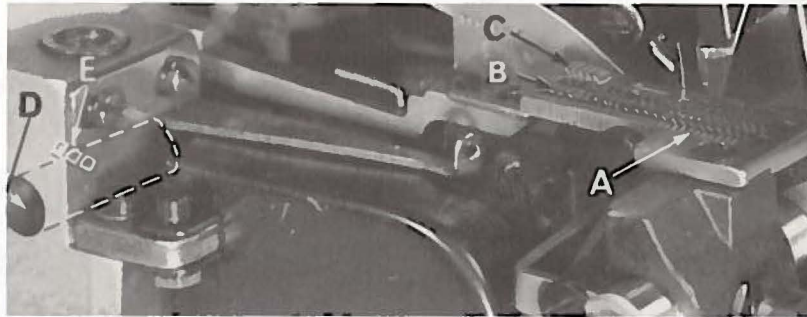

Fig. 13
Now assemble differential (front) feed dog (A, Fig. 13), if not already in place, main (back) feed dog (B) and chaining feed dog (C). Set the differential and main feed dogs (A and B, Fig. 13) so the top surfaces of teeth lay in the same plane. This can be checked by sighting across teeth with a straight edge. Now assemble throat plate. Feed dogs should now be leveled with throat plate surface by rotating feed tilting adjusting pin (D). This pin raises or lowers the back end of both feed bars at the same time.
The main and differential feed dogs should be set level at the time teeth first appear above the throat plate. Screw (E, Fig. 13) locks feed tilting adjusting pin in place. Now set main and differential feed dogs so that teeth are approximately $\frac{3}{64}$ inch (1.19 mm) above throat plate at high point of travel. Set chaining feed dog (C) so its teeth are level with top of throat plate when feed is at top of its travel.